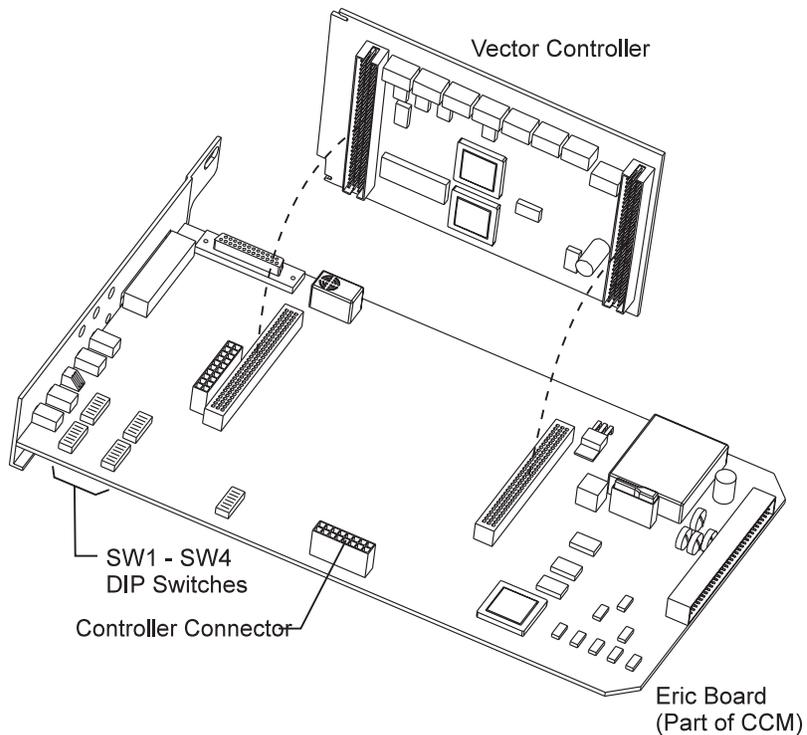

Figure 7-4: Network connector on ERIC module
1. See Figure 7-4. Connect the controller cable to the controller connector identified on the ERIC module. **Note:** Use the correct controller cable. Two versions are furnished in the kit. Cable Assembly labeled #1 is used with Vector Controller with four-line LCD display, and Cable Assembly labeled #2 is used with Vector Controller with single-line LED display.